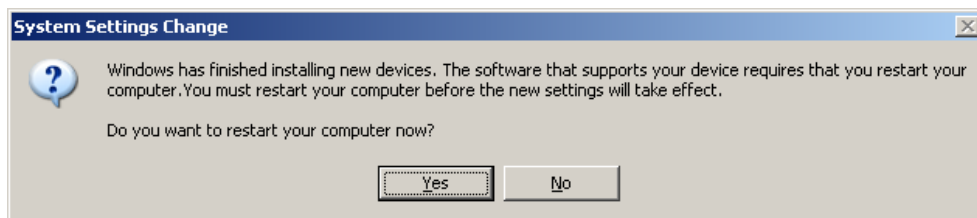

Figure 1-114. Restart After Installing New Devices
13. After a couple of seconds, the "System Settings Change" popup window displays the message, "Do you want to restart your computer now?" (Figure 1-114).